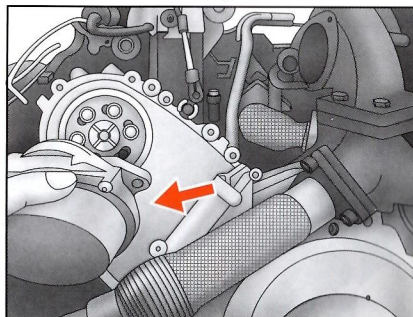

Fig.2
2. Remove the vacuum pump from the LH Bank. (Fig.2)